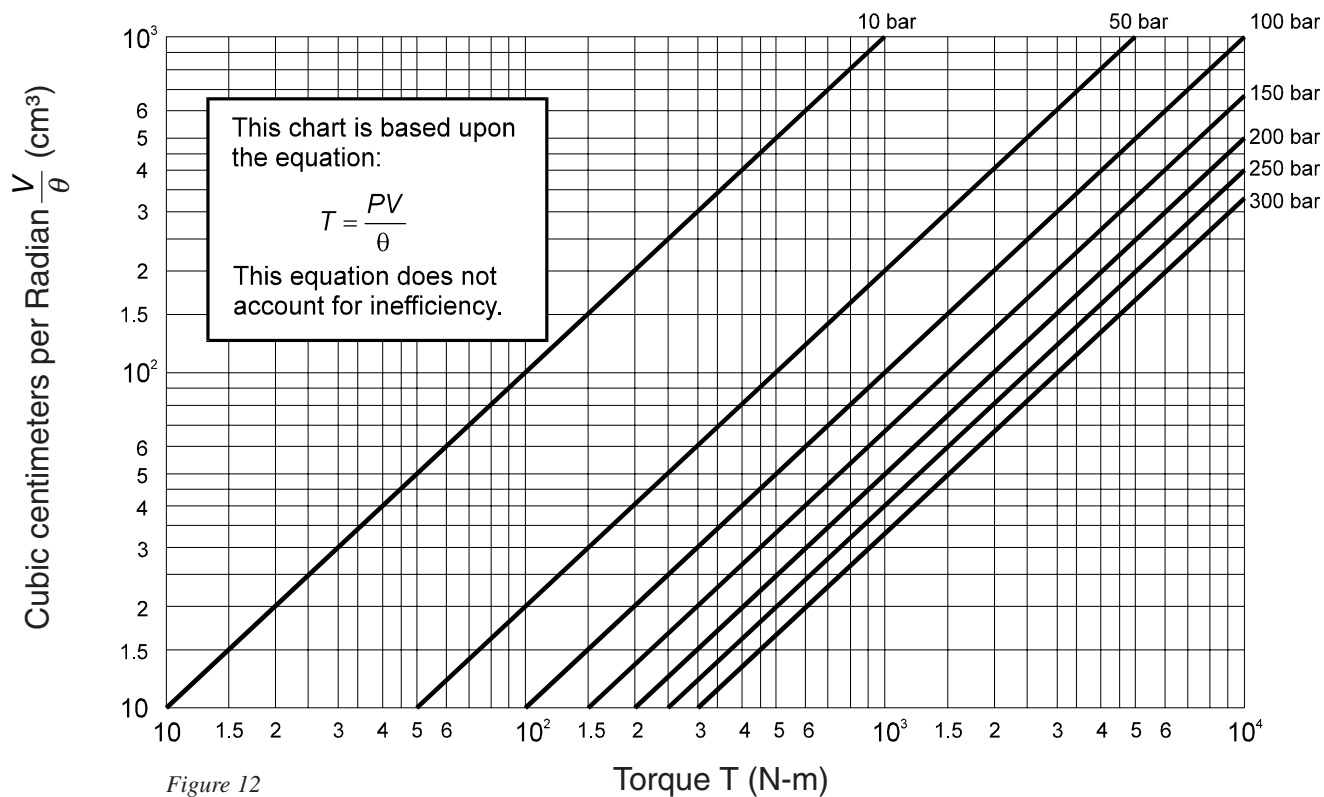

Figure 12
- C. Calculate  $V/\theta$  based upon  $T_D$  and the maximum system pressure chosen in Step A.  $V/\theta$  is the volume displacement per one radian of rotation for a rotary actuator.  $V/\theta$  can be calculated from the Equation 7, or by using Fig. 14. (Fig. 12 for S.I. units).
- H. Select a rotary actuator with a torque rating greater than  $T_D$ , a displacement greater than  $V$ , and a pressure rating greater than  $P_C$ . Calculate system operating pressure  $P$  based upon the selected actuator's rated torque  $T$ , and the selected actuator's  $V/\theta$  value using Equation 10 or Fig. 12.